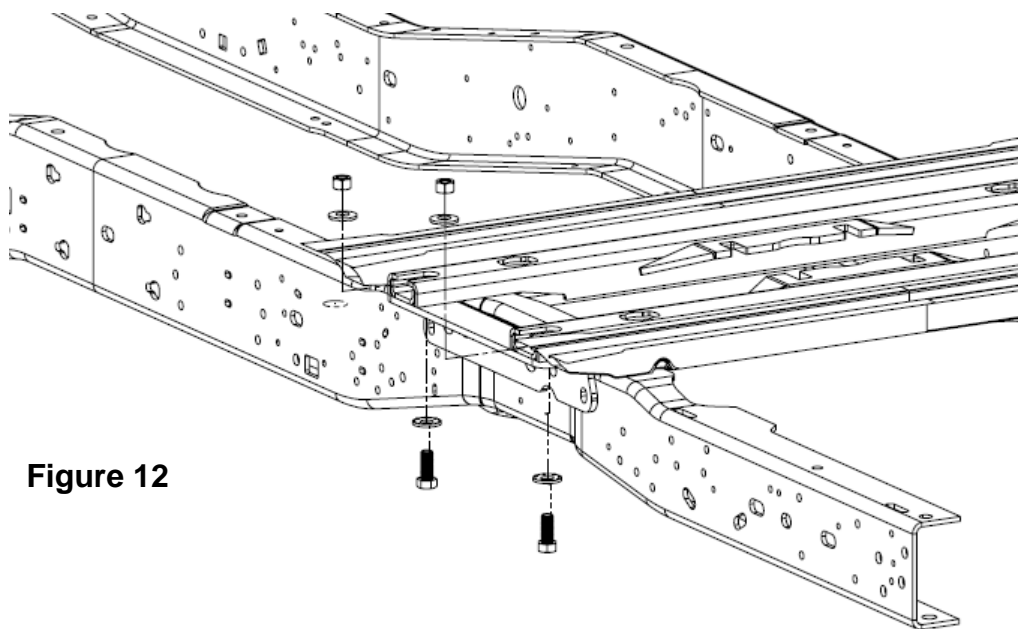

Figure 12
17. Loosely attach frame brackets (#2 & 3) (Figure 1) to mounting kit rails using 5/8" X 1 3/4" (#10) (Figure 1) long bolts, conical washer (#11) (Figure 1) (below bracket), conical washer (#11) (inside rail), and 5/8" nut (inside rail) (#9) (Figure 12). Tighten all mounting kit bolts to hand tight.